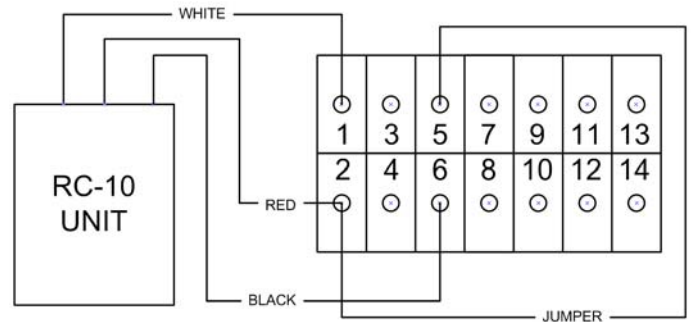

Figure 2. Connections
1. Install a jumper wire between terminals #2 and terminal #5 (see Figure 2).